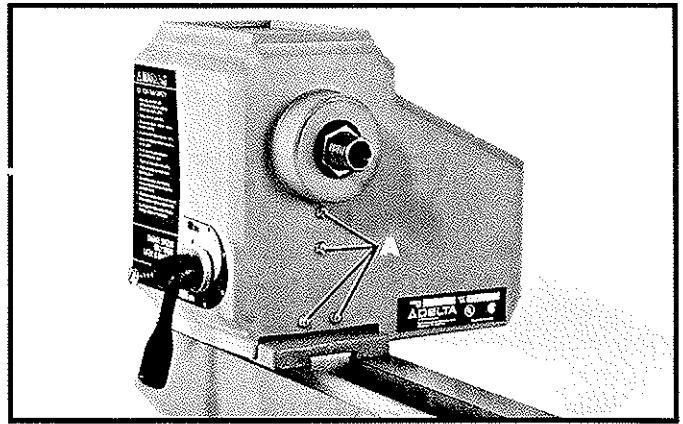

Fig. 87
2. Remove the four screws (A) Fig. 87, located on the right side of the headstock.